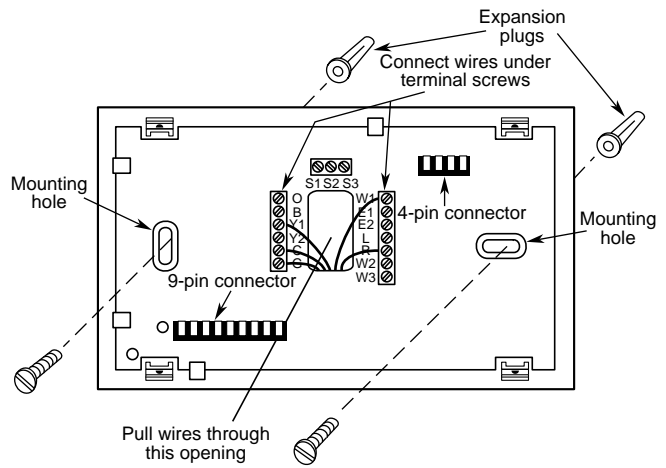

Figure 3. Subbase
2. Connect wires beneath terminal screws on subbase using appropriate wiring schematic (see figs. 3 through 6).
5. Fasten subbase loosely to wall, as shown in fig. 3, using two mounting screws. Place a level against bottom of subbase, adjust until level, and then tighten screws. (Leveling is for appearance only and will not affect thermostat operation.) If you are using existing mounting holes, or if holes drilled are too large and do not allow you to tighten subbase snugly, use plastic expansion plugs to secure subbase.